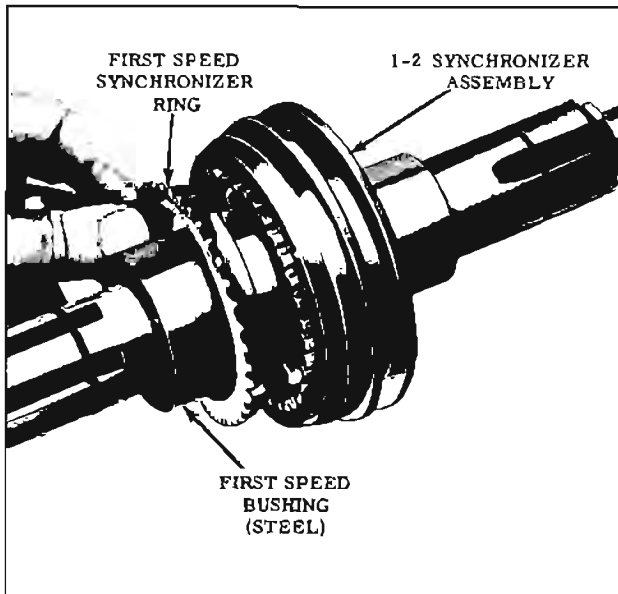

Fig. 11-240 Bushing and Synchronizer Ring Installation
- Remove the main shaft from tool J-8612 and install the first speed gear steel bushing over the rear end of the main shaft. (Fig. 11-240)
- Install the first speed gear synchronizing ring with the notches in the ring aligned with the retainer plates in the synchronizer gear. (Fig. 11-240)